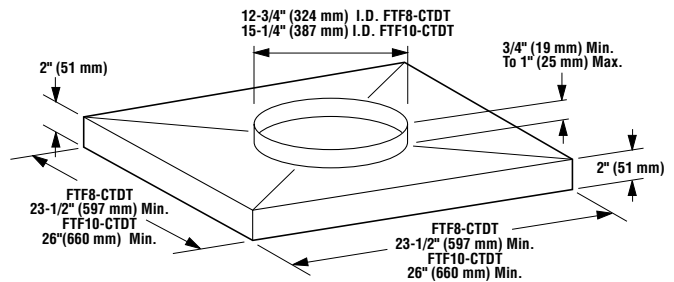

Figure 1
Step 1. Construct the locally fabricated chase and chase flashing. Detail in *Figures 1 and 2* depict the minimum and maximum dimensions.